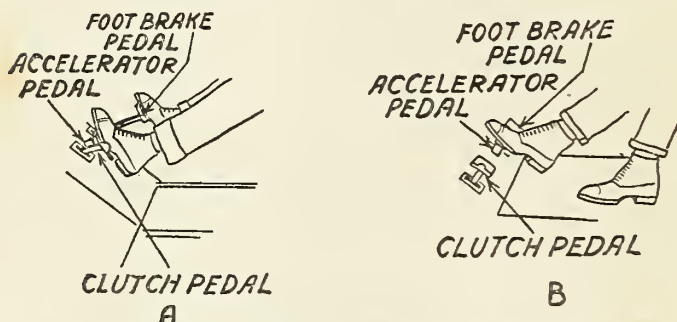

FIG. 8.—A. Always press out the clutch before shifting the gear lever. B. Press the accelerator pedal with your right foot.
You Are Ready to Go.—When the engine is running smoothly then (1) release the *hand* or *emergency brake* and at the same time hold the car with the *foot* or *service brake* as shown in Fig. 8, and *don't forget to do it* either.
(6) Now with the same foot press the *accelerator pedal*, see Fig. 8 again, which is connected with the throttle lever, until the engine picks up in speed; (7) let your foot up *gradually* on the *clutch pedal* when the clutch will begin to take hold and you will find your car slowly running along the road.